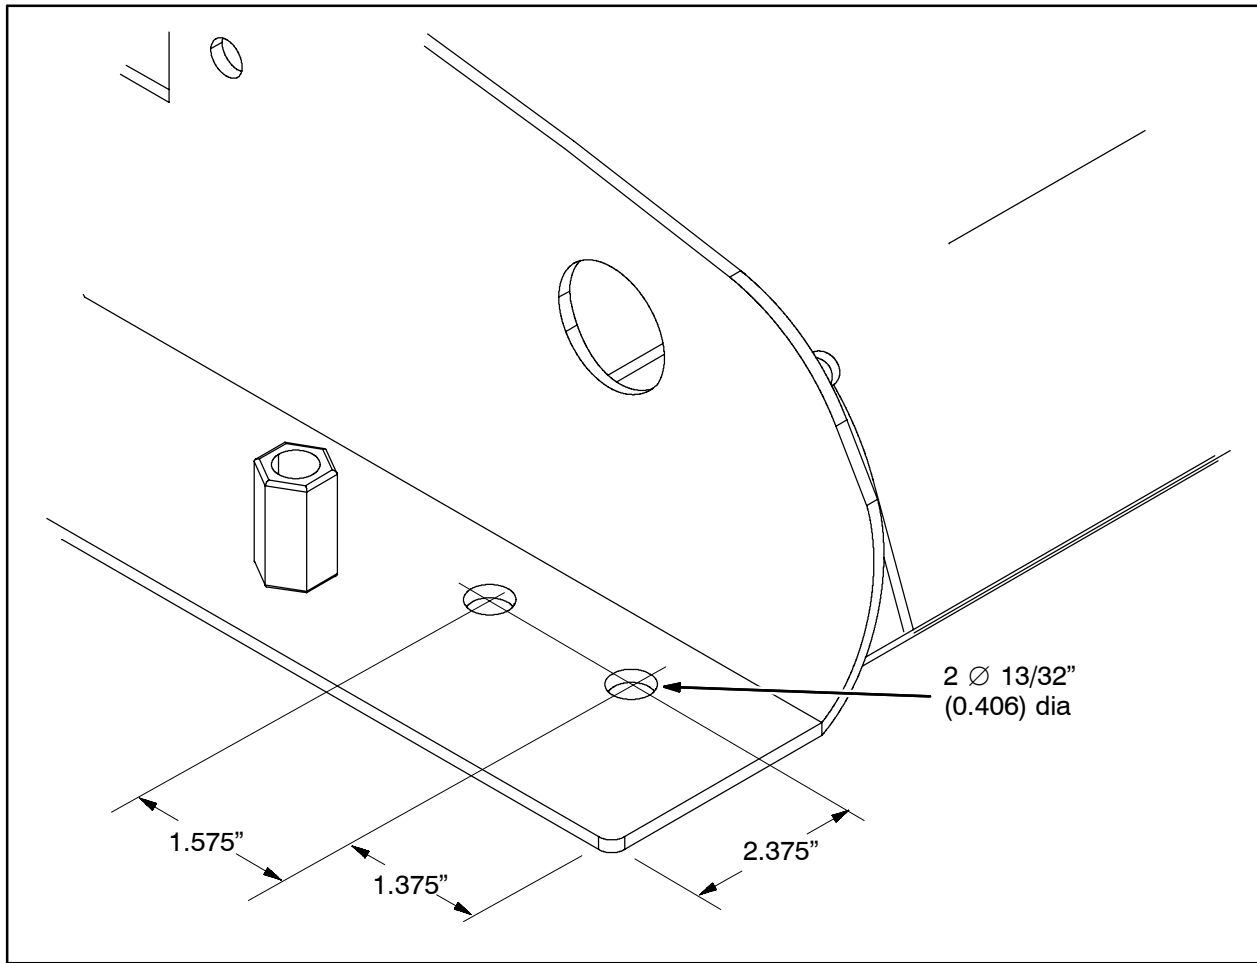
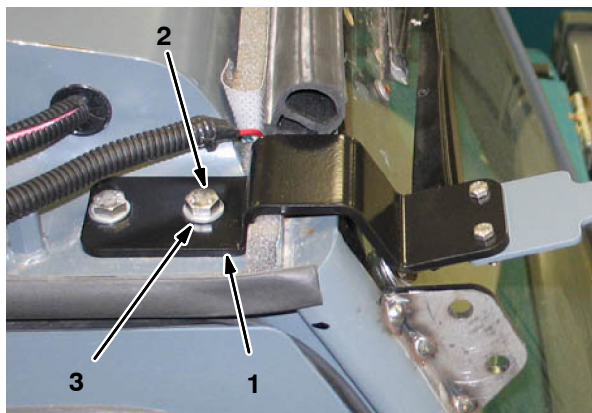
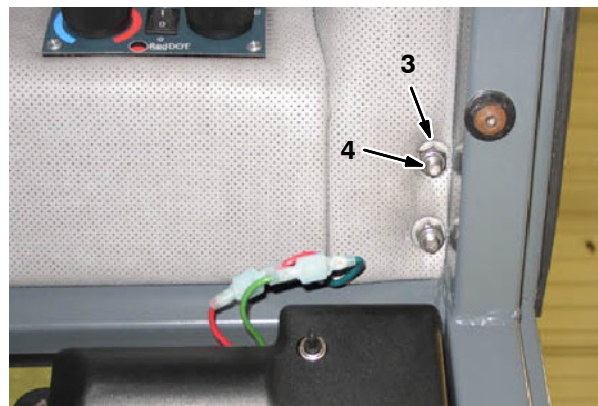

FIG. 3
FIG. 4
FIG. 5
3. Drill two 13/32" holes through the top of the cab and into the operator compartment. Refer to Fig. 3.
4. Use two hex screws (2), four flat washers (3), and two hex nuts (4) to install the mirror mounting bracket (1) onto the top of the cab. Refer to Fig. 3, Fig. 4, and Fig. 5.